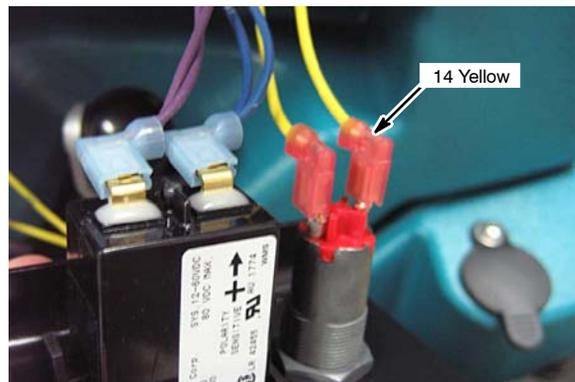

Fig. 23
- Disconnect wire 14 yellow from key switch (Figure 23).